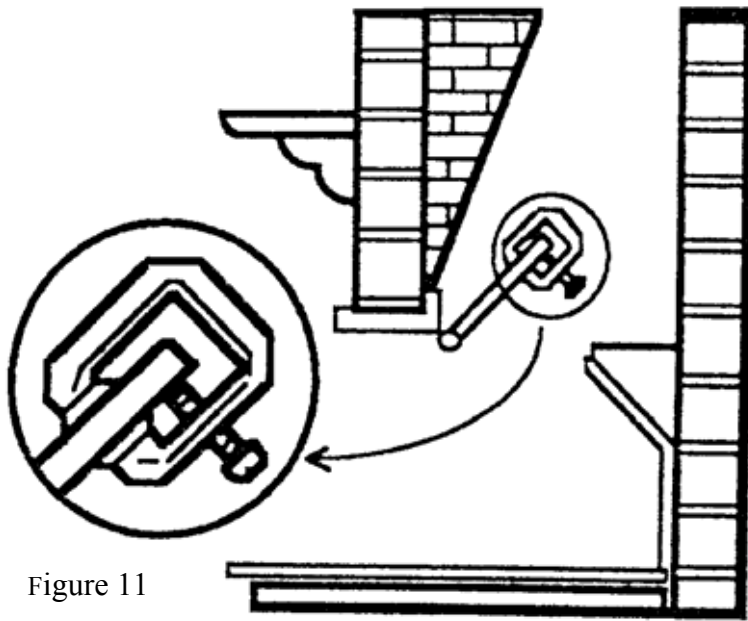

Figure 11
- (1) This appliance must be installed only in a solid-fuel burning fireplace with a working flue and constructed of non-combustible materials.
- (2) A minimum of 34 sq. in. (Min. 6" chimney) or see page 39, permanent flue opening must be provided by either the fireplace chimney or chimney damper to vent the flue gases.
- (3) Solid fuels shall not be burned in a fireplace where a decorative appliance is installed.
- (4) Any chimney damper must be fixed in a manner which will maintain the minimum permanent vent opening at all times. See figure 11.